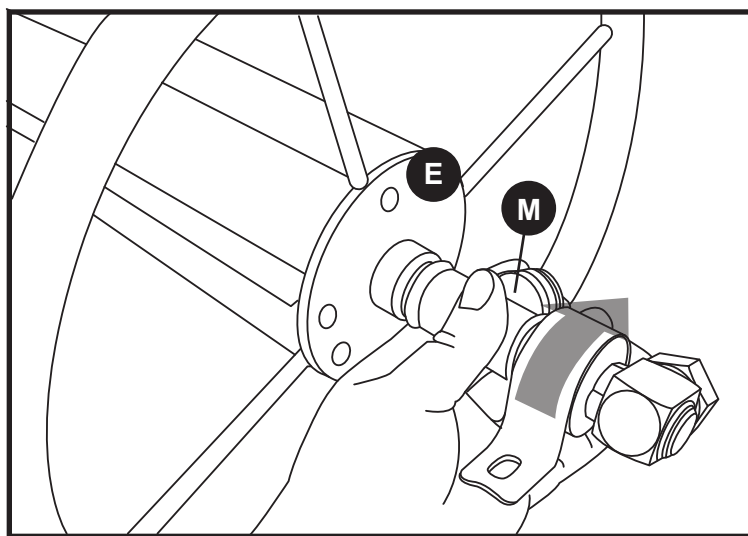

FIGURE 10
10. Thread the water connection unit **(M)** onto the spool end. **(E)** Tighten using an adjustable wrench. See Figure 10